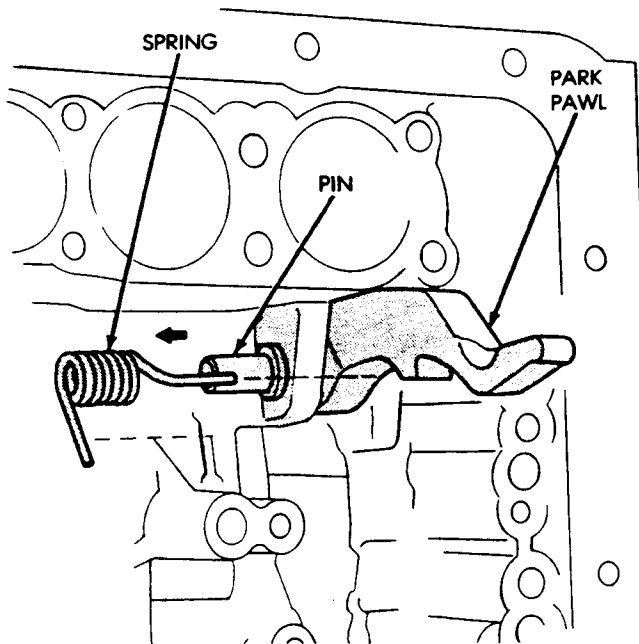

Fig. 43 Removing Park Pawl, Pin And Spring
(52) Remove park pawl spring, pin and pawl (Fig. 43).